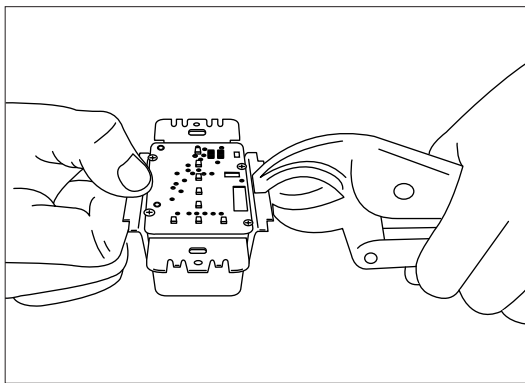

fig. 2
2. If installing in a multigang box, the side-fins must be removed for fit (see figures 2 and 3).